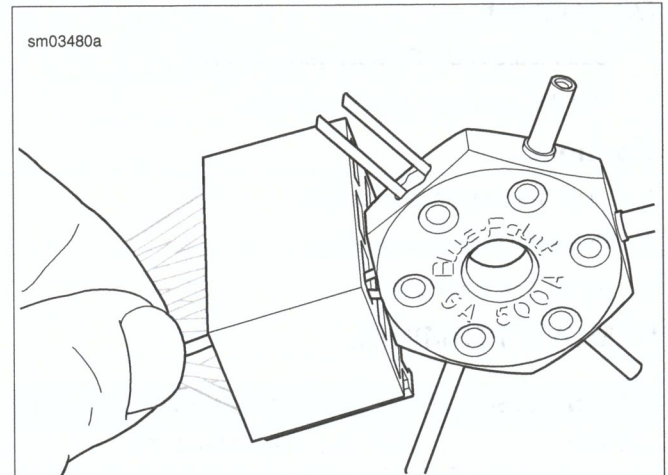

Figure A-33. Removing Autofuse Unsealed Terminal from Fuse Block
1. See Figure A-33. Insert smallest pair of pins on the SNAP-ON TERMINAL PICK (Part No. GA500A) into cavity on either side of terminal to press tangs on each side of terminal simultaneously.